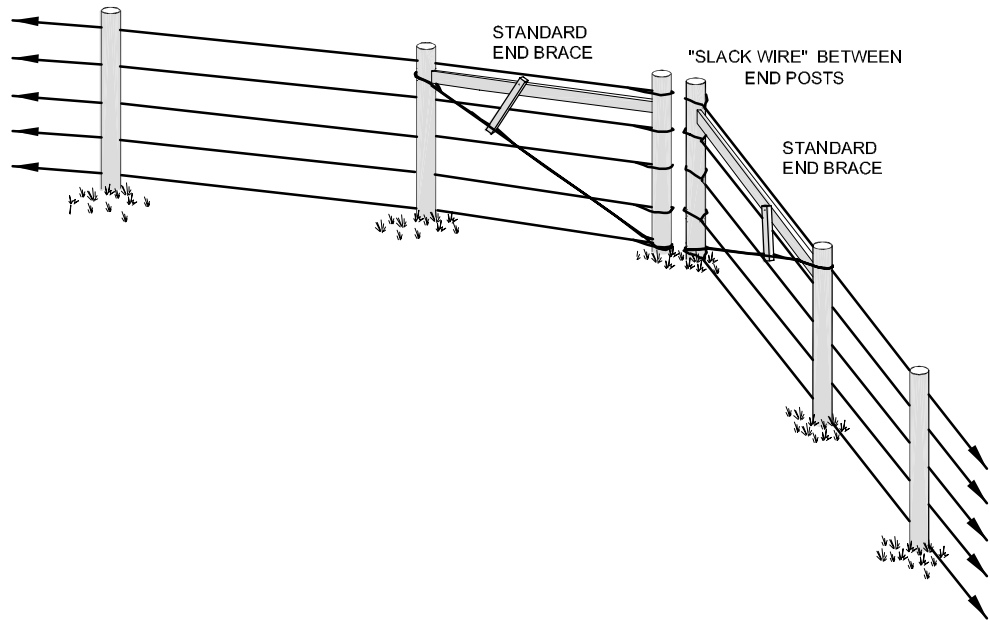
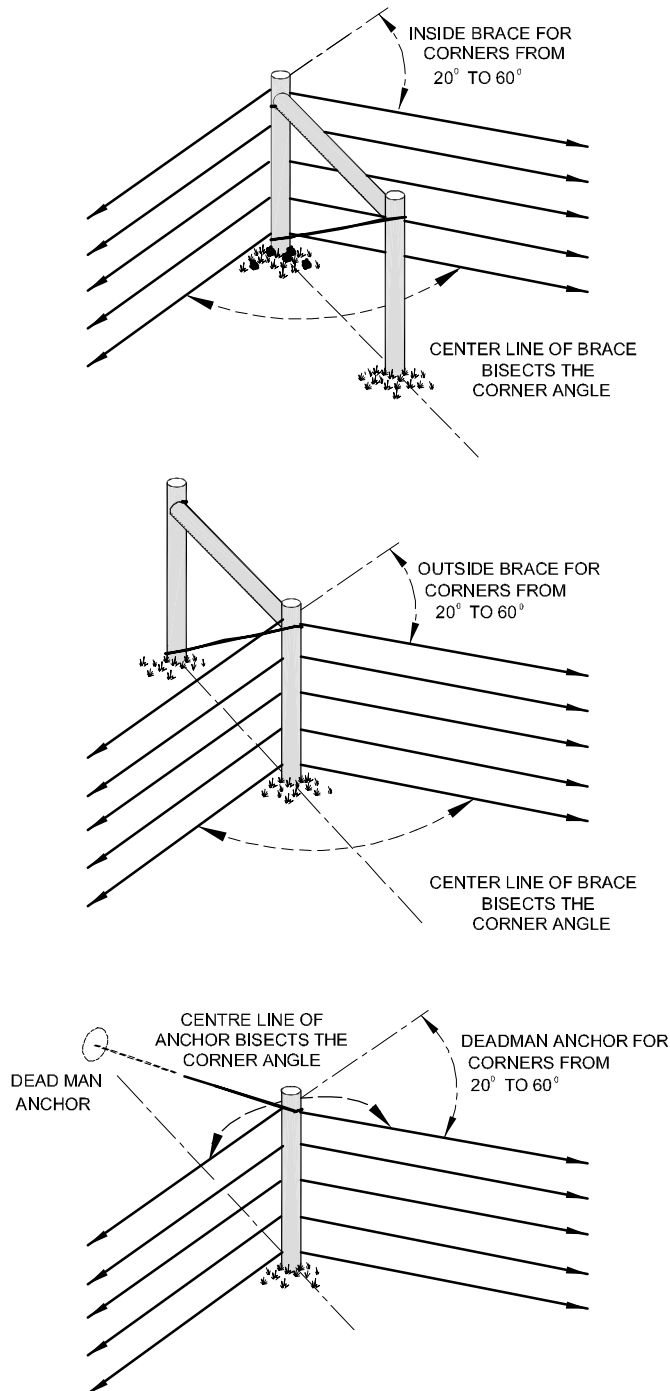

Figure 13 Separate Braces at a Tie-Off Corner (changes less than 60°)
Figure 15 Change of Direction Braces (for changes less than 60°)
If it's appropriate to tie the fence wires off a **separate** end brace can be constructed for each fence section as in Figure 13 below. Rather than 'share' a common tie off post, each section is tied off to a separate end post producing no forces out of line with the braces. This requires an extra driven post per corner and 'slack' wiring the opening between posts but ensures a stable corner.
- for corners less than 60° use either separate corner posts, Figure 13, or brace the corner post, Figure 15
Often the fence change of direction occurs when it is not appropriate to tie off the fence wires (i.e. less than the 660 feet or 1320 feet rule for tensioning wire). Rather than have many short sections of fence, the wires can continue around the change of direction post provided the post can be adequately supported and special stapling methods are used. Figure 15, below, illustrates three possible braces. Refer to Factsheet 307.100-2 for wire tie-off distances and special stapling methods.